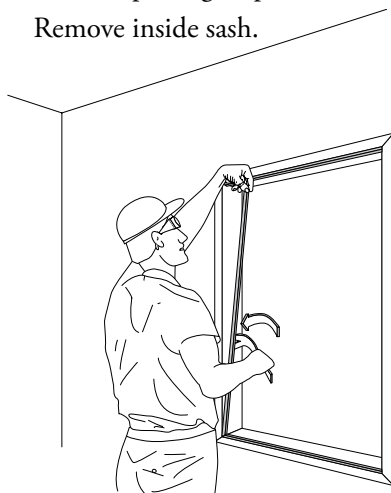

Figure 3. Remove inside stops.
- Remove the inside stops by removing the stop screws (if they are present) or, more commonly, by prying the stops off the jambs. When prying the stops loose, work the tool (putty knife or flat bar) under the back side of the stop to prevent marring the visible surfaces of the stop. (Figure 3)